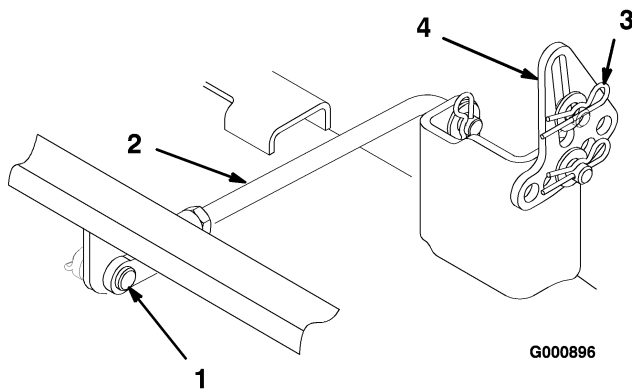

Figure 48
- Remove the hairpin cotter and clevis pin from the rear trunion rod (Figure 48) on each side of the mower.
- Remove the hairpin cotter and washer at the mower leveling brackets (Figure 48) on each side of the mower. Note which hole the leveling bracket is mounted in for future installation. Slide the brackets off of the mounting pin.
6. Attach the rear trunion rod to the tractor with the clevis pin and hairpin cotter (Figure 48) on each side of the mower.
7. Slide the leveling brackets onto the mounting pins and secure them with the washers and hairpin cotters (Figure 48).